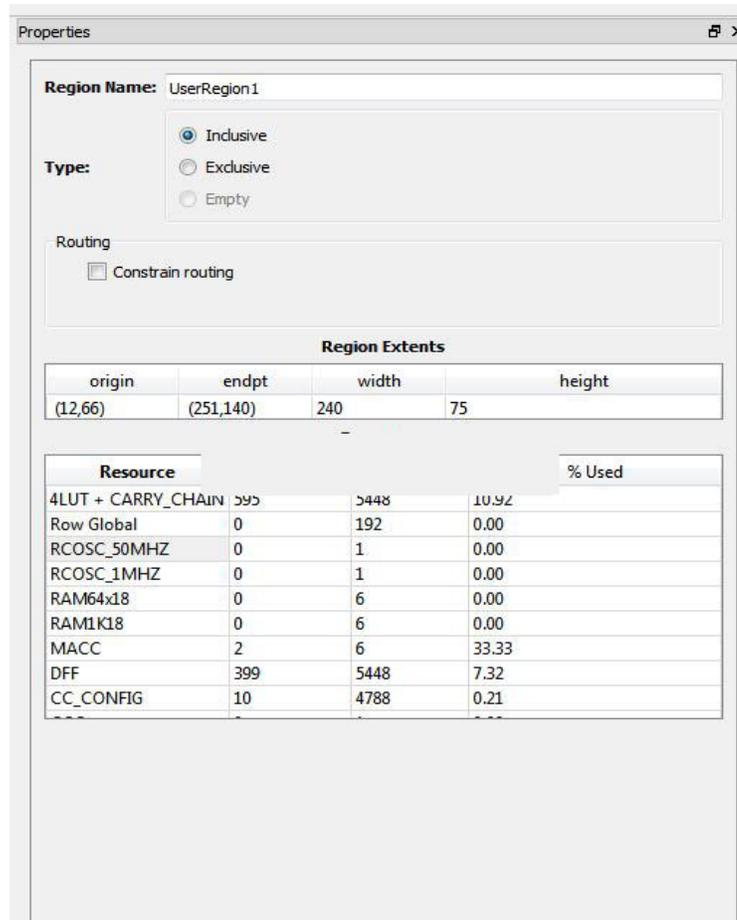

Figure 1-19 • Properties of Region
- Constrain routing - Instructs the Place and Route tool to apply routing restrictions (in addition to Placement restrictions) to the user regions. Refer to Figure 1-19 • Properties of Region for details.